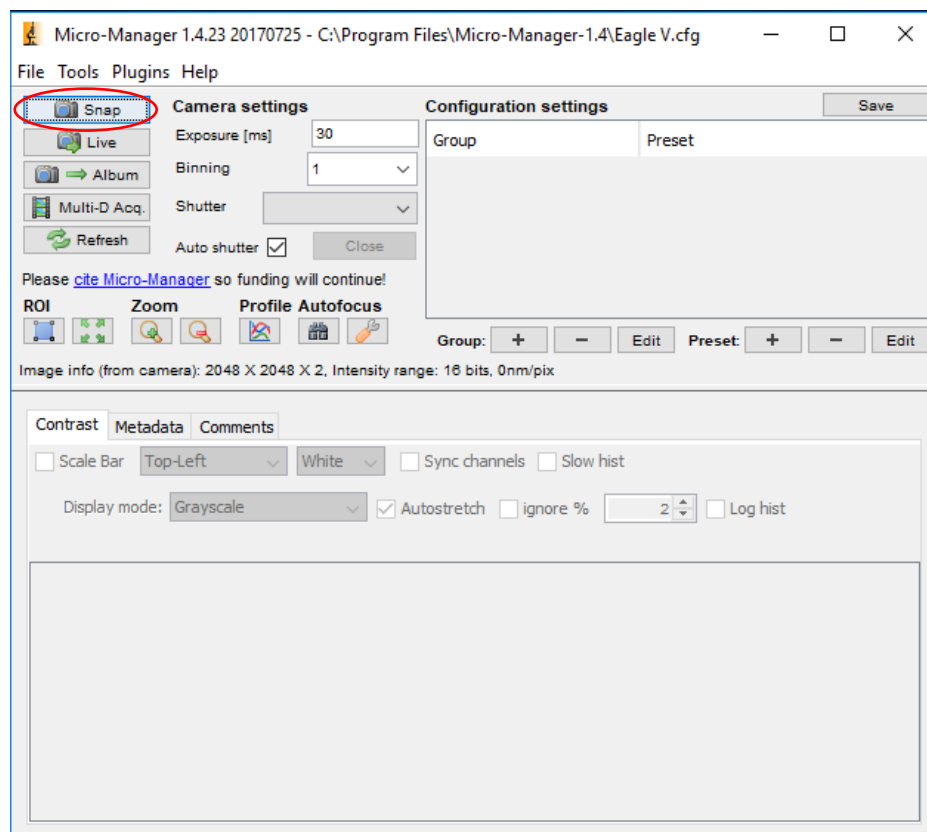
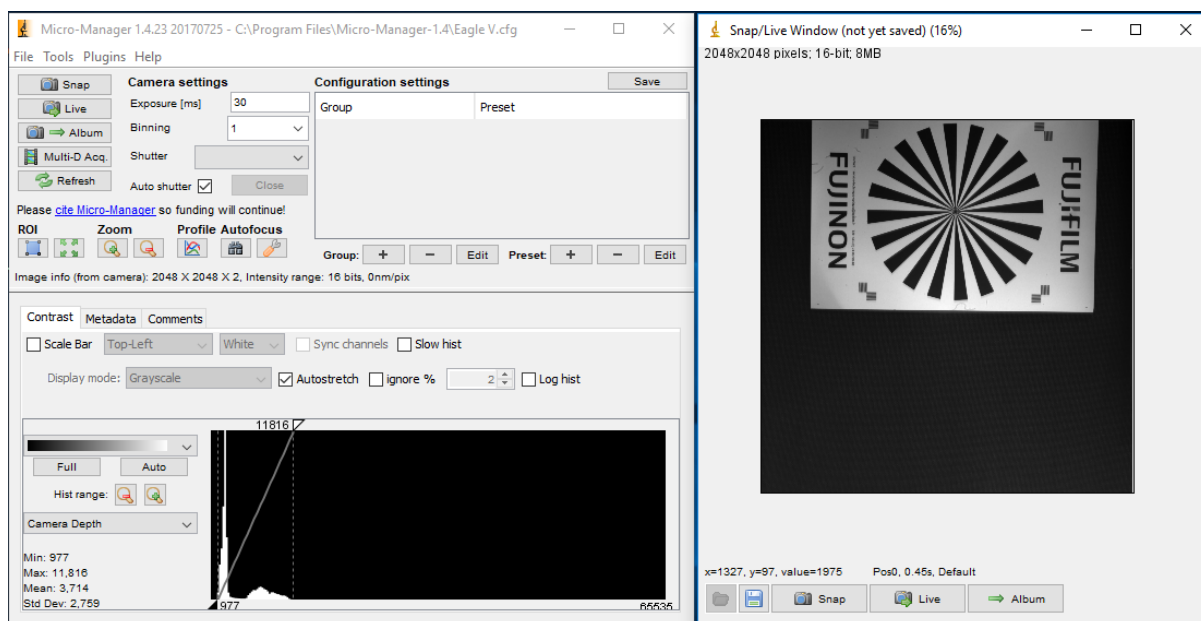

Figure 23: Opening Screen
Figure 24: Viewing Window
1. Click on snap (Figure 23) for Micro-Manager to open the viewing window as shown in Figure 24.